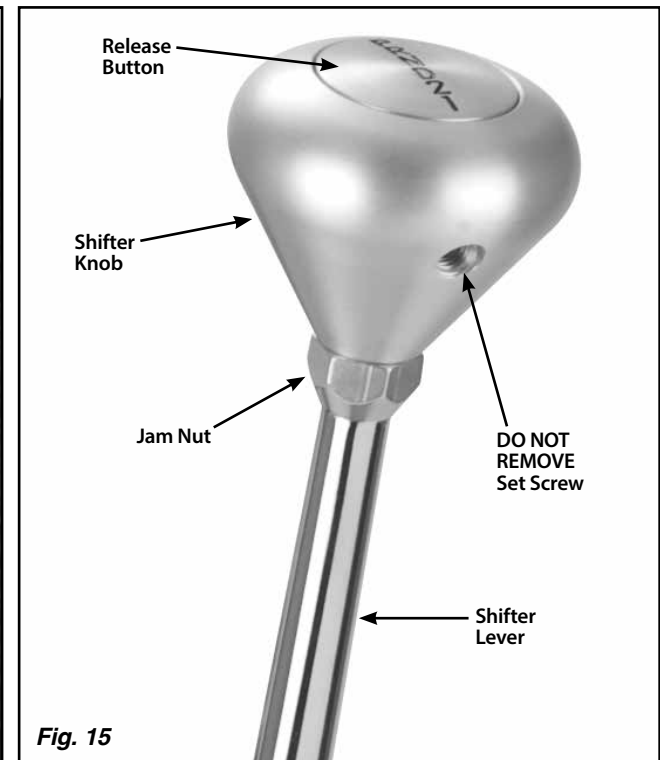

Fig. 15
- Step 2:** Loosen the jam nut below the shifter knob (turn the nut CLOCKWISE to loosen it). **DO NOT** loosen or remove the set screw that is in the knob. **Fig. 15**